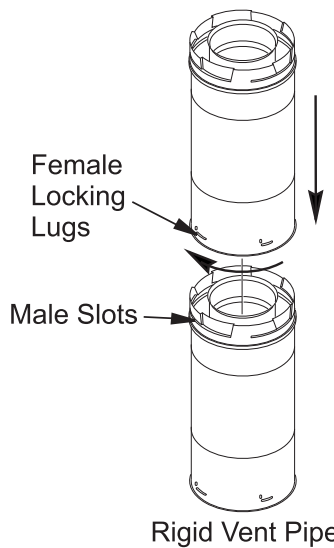

Figure 17 - Vent Pipe Connections
**Twist-lock Procedure:** Female ends of pipes and fittings have four locking lugs (indentations). These lugs will slide straight into matching slots on male ends of adjacent pipes and fittings. Push pipe sections together and twist one section clockwise approximately one-quarter turn until sections are fully locked. See Figure 17. *Note: Horizontal runs of vent must be supported every three feet. Use wall straps for this purpose.*
2. Assemble desired lengths of pipe and elbows necessary to reach from fireplace flue up through firestop. Be sure all pipe and elbow connections are fully twist-locked (see Figure 17, page 14).